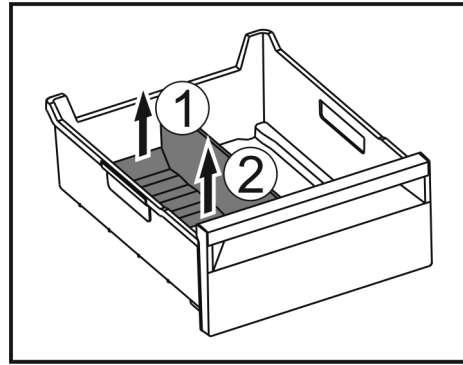

Fig. 163
- Lift the rear part of the ice compartment divider. Fig. 163 (1)
- Remove the ice compartment divider upwards. Fig. 163 (2)